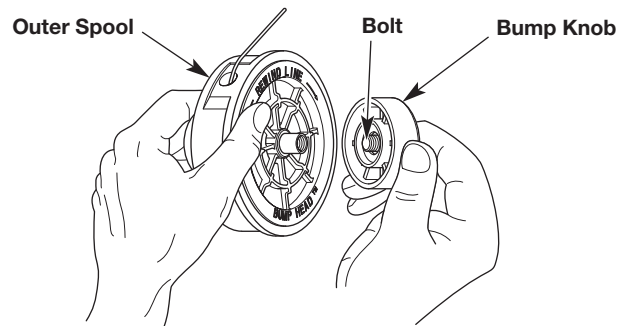

Fig. 11
1. Hold the outer spool with one hand and unscrew the bump knob counterclockwise (Fig. 11).